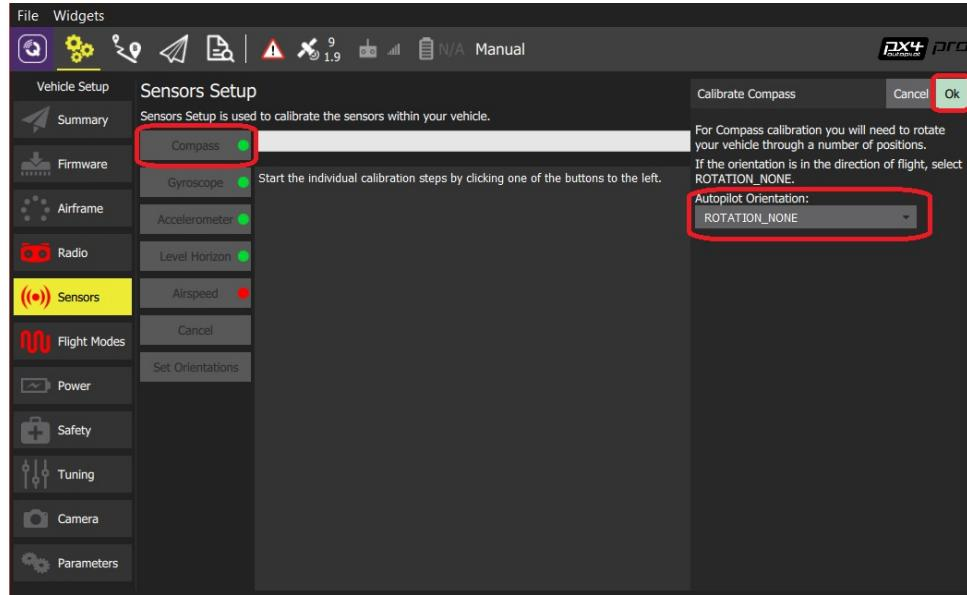

Figure 3.12: Select Compass Selection PX4
4. Click the **Compass** sensor button. See figure 3.12. You should already have set the Autopilot Orientation. If not, you can also set it here.